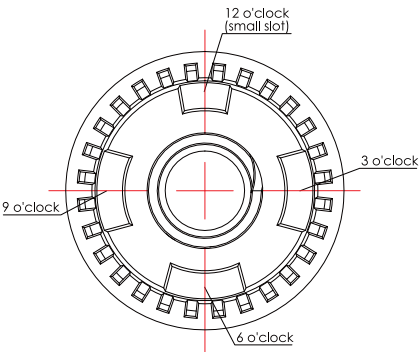

Fig. 2
5. For advanced cam settings, the design of the shaft has been divided into 28 directions to customize water flow for your installation. Each of them is around 13 degrees from the other. Users may select partial open, semi-open, partial close, etc.). These settings are not listed in the chart. The 12 o'clock (small slot) is always the reference of every setting (Fig. 2). The upper cam affects the clockwise position stop point. The lower cam affects the counter-clockwise rotation stop point.